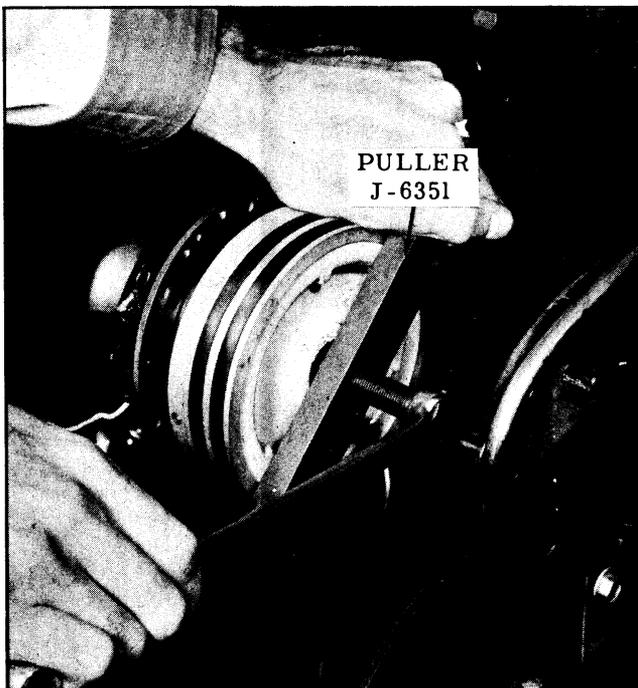

Fig. 14-23 Pulley Removal
4. Using Tool J-6351, remove pulley. (See Fig. 14-23)